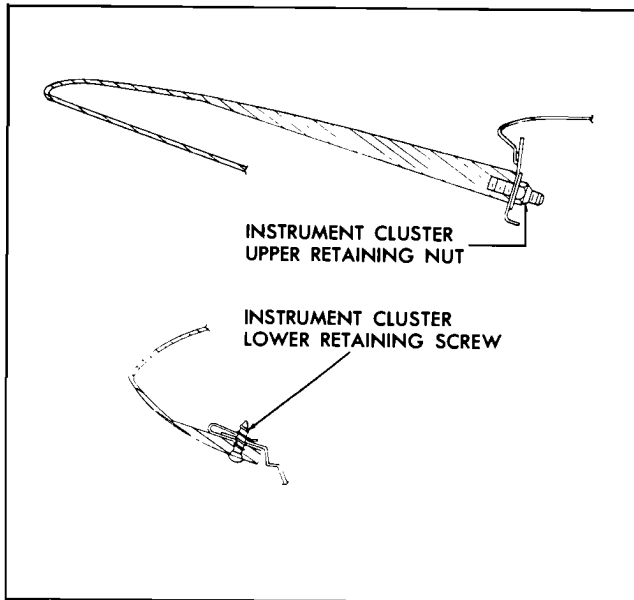

Fig. 11-94. Instrument Panel Cluster Retained
2. Remove two $\frac{1}{4}$ " nuts (Fig. 11-94).